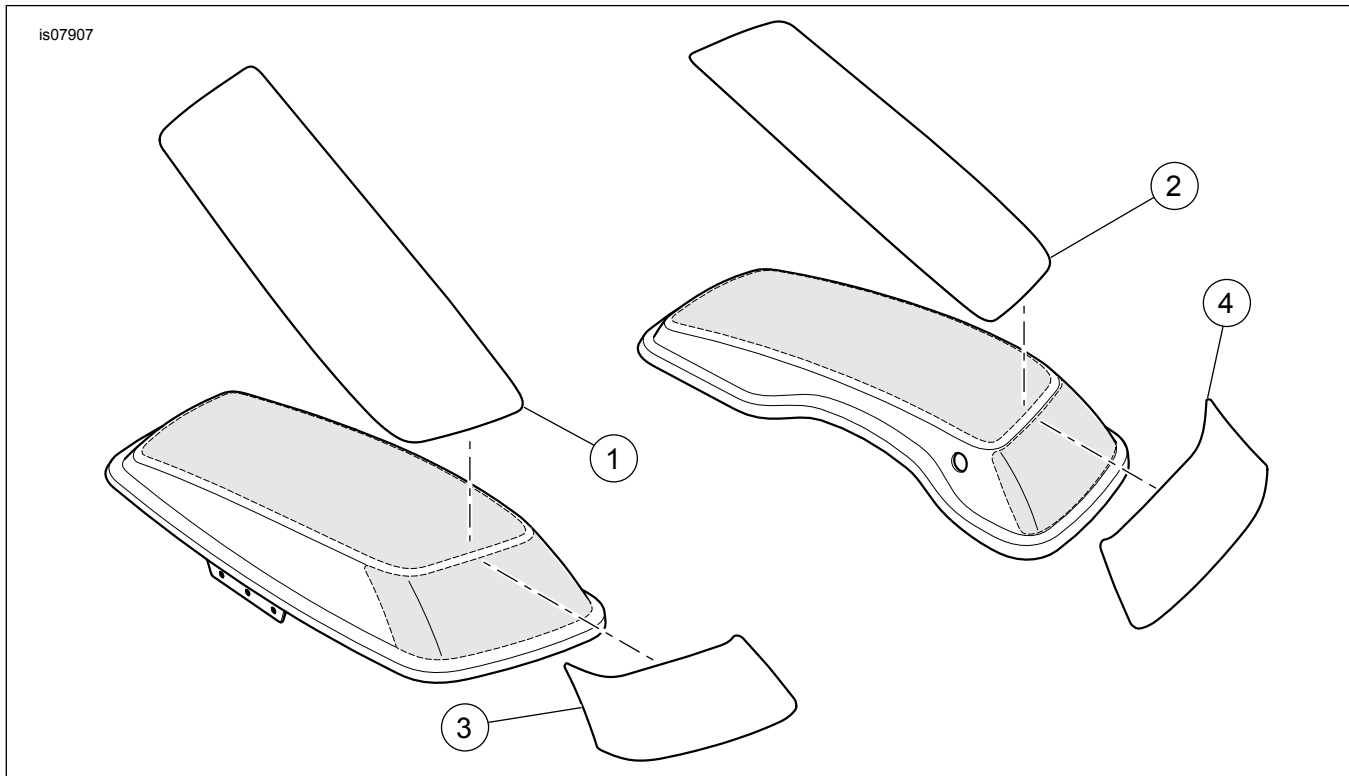

Figure 1. Service Parts: Paint Guard Kit
See Figure 1 and Table 1.
2. See Figure 1. Wash all mounting areas thoroughly. Allow to dry completely.
- See Figure 1. Identify each paint guard piece and its mounting location before proceeding.
2. See Figure 1. For top saddlebag lid, align the paint guard with the front edge. For front saddlebag lid, align the paint guard with the outside edge.